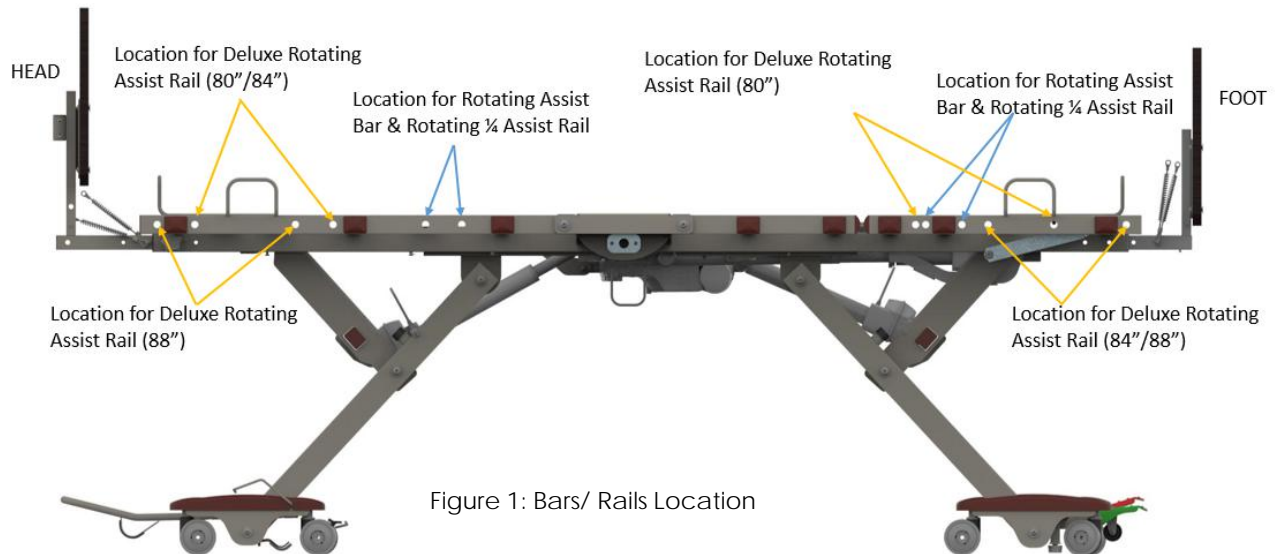

Figure 1: Bars/ Rails Location
2. Chose appropriate location holes for mounting according to the actual size of the sleep surface. The mounting location is shown in the Figure 1 above.
1. Chose appropriate location holes for mounting. The mounting location is shown in the Figure 1 above.